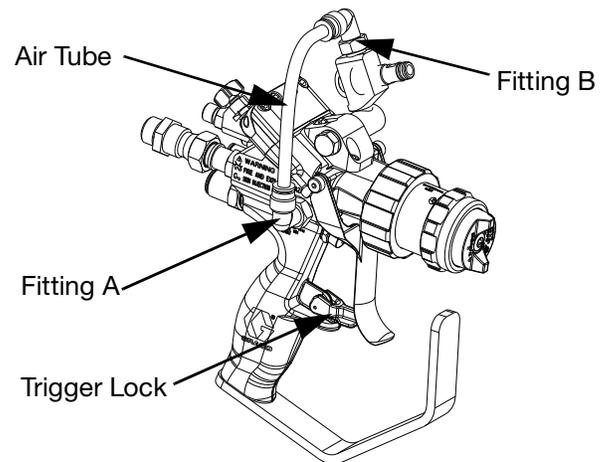

FIG. 2
2. Use a crescent wrench to remove air tube fittings A and B and the 1/4 in. air tube from the RS gun, as shown in FIG. 2.